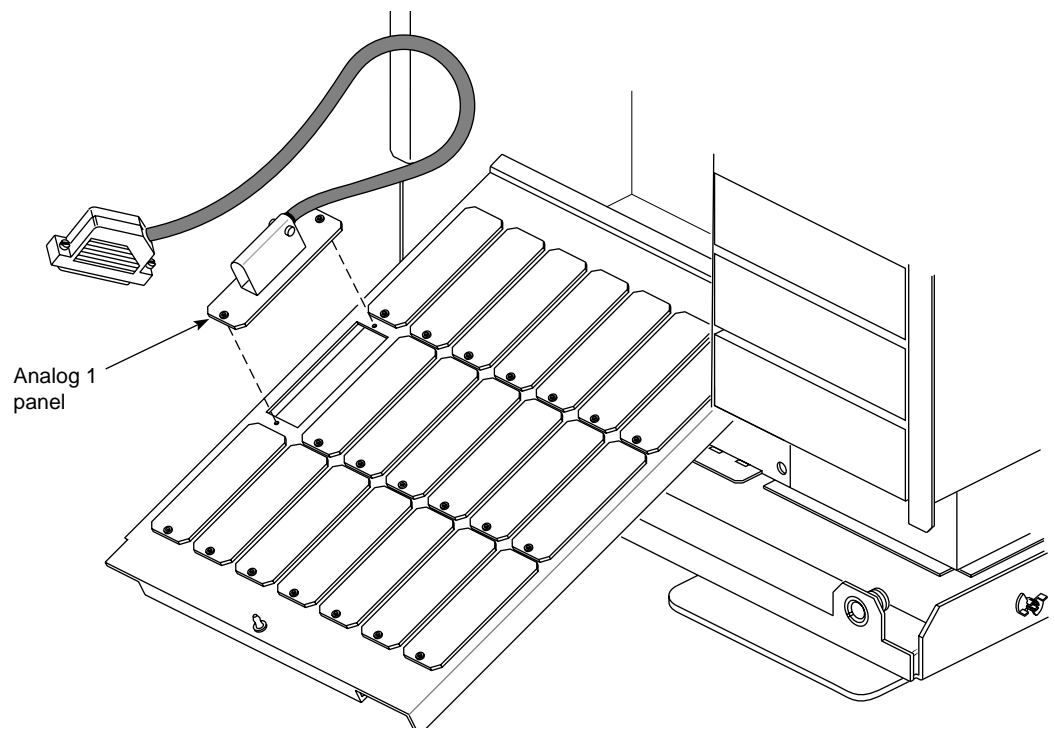

Figure 3-1 Positioning the ANALOG 1 Panel
2. Position the **ANALOG 1** panel over the leftmost slot, orienting it as shown in Figure 3-1. Screw it in using the reserved screws.